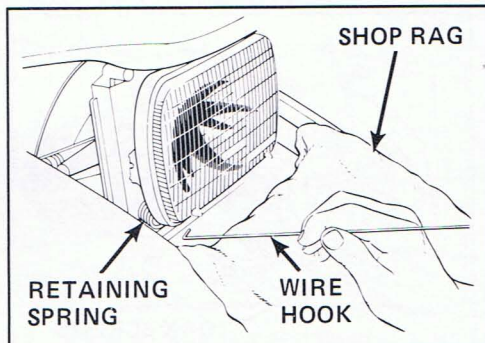

Figure 5 - Removing headlight retaining spring
- headlight assembly. Use a shop rag or towel to protect the finish in front of the headlight door. See Figure 5.